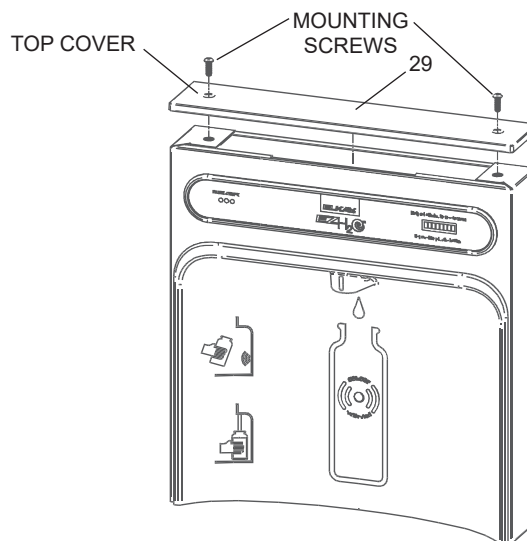
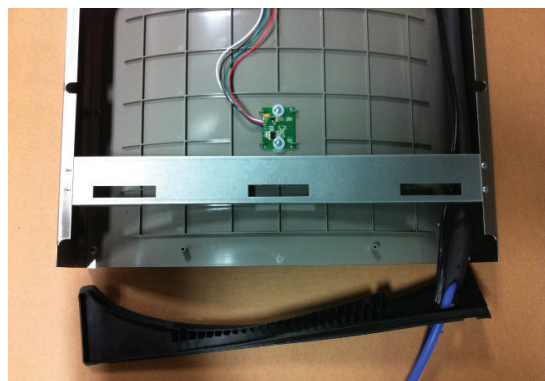

Fig. 5
Fig. 6
- 1) **Remove two (2) mounting screws** with 5/32" Allen wrench holding top cover to Bottle Filler (See Fig. 5). Remove top cover. Note do not discard mounting screws, they will be needed to reinstall top cover.
- 7) **Feed power cord & 3/8" water line** through hole in tower/basin gasket (See Fig. 6).
- 8) **Once Bottle Filler is installed** on wall plate tabs, water line, wire(s) and power cord are installed properly, push top of Bottle Filler toward wall and line up top cover two (2) holes.
- 9) **Reinstall Top Cover on Bottle Filler** (See Fig. 5) with two mounting screws from step 1 above. Caution, do not over tighten screws.